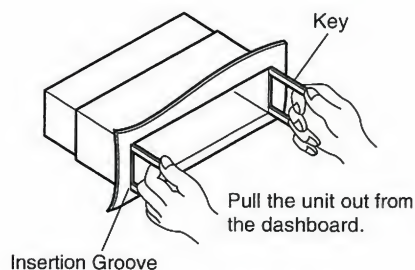

Fig. 3
- To remove your unit, first remove the front trimplate. (Lift the top part carefully with a flat screwdriver for easy removal). Insert the pair of keys provided all the way into the grooves on each side of the unit and pull the unit out. (Fig. 3)